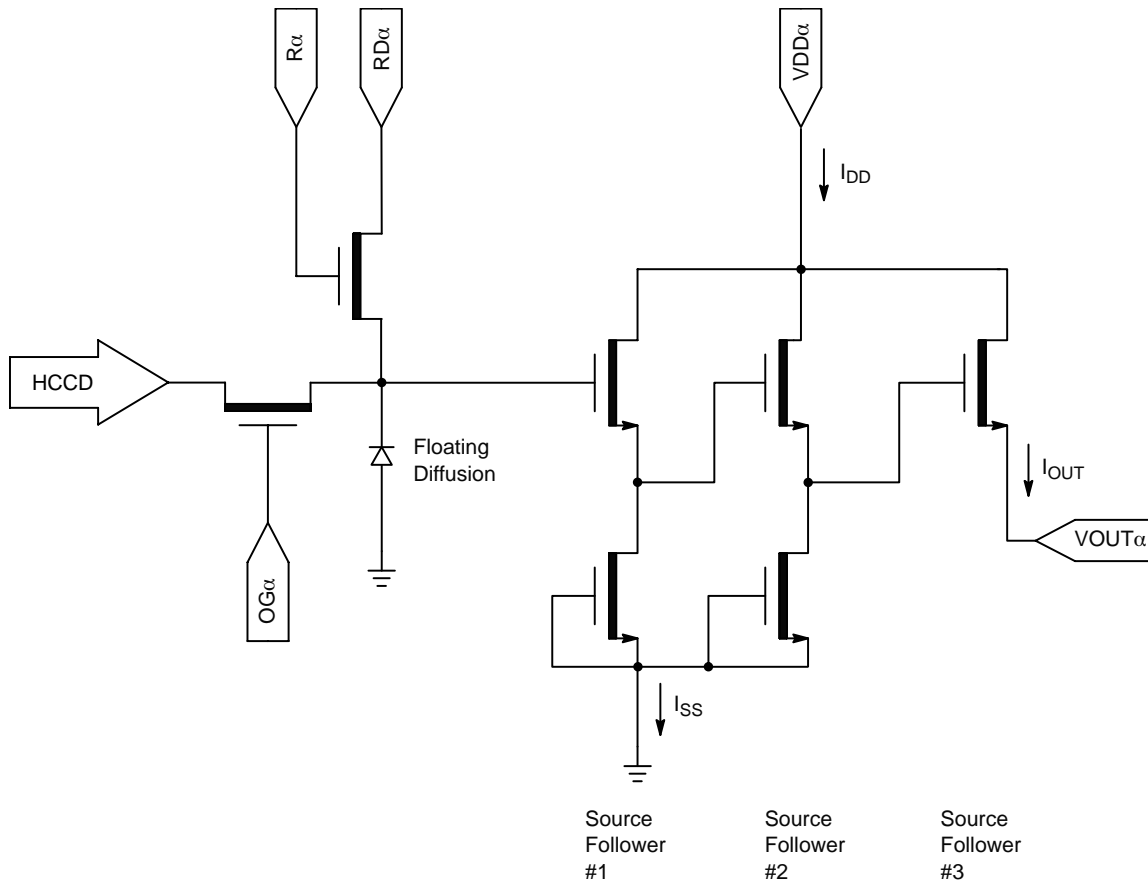

Figure 19. Output Amplifier
2. The maximum DC current is for one output. $I_{DD} = I_{OUT} + I_{SS}$. See Figure 19.